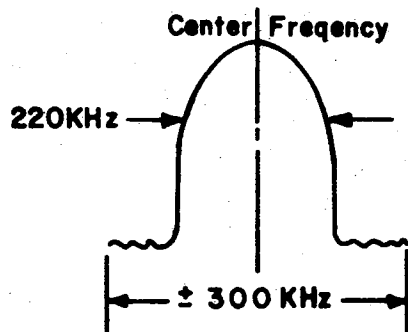

Figure 3
3. Tune the FM Generator, modulated  $\pm 300\text{KHz}$  @ approximately 20uv output level to the receiver frequency. Connect a RF detector probe to Pin 1, of CA3012 (Q7) and center the FM IF response on the oscilloscope. The FM IF bandpass characteristics are now being displayed. Adjust the transformer cores, both top and bottom of the RF converter (T4) and the 2nd and 3rd FM IF's (T5 & T6) for maximum gain and symmetry (see Figure 3).